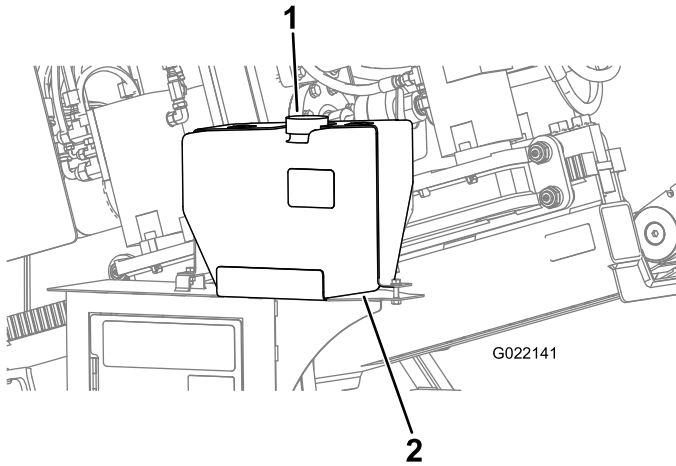

Figure 115
- D. Remove the cap from the antifreeze tank for the drilling-fluid pump (Figure 115).
E. Ensure that the tank is full of antifreeze (Figure 115).
C. Add antifreeze to the tank as needed (Figure 115).
5. Install the cap onto the antifreeze tank (Figure 115).